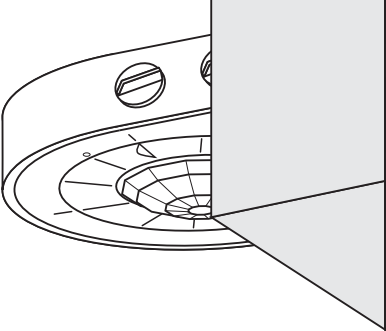

Figure 1B
**NOTE:** The HB011 is supplied with two lens trim rings. The 360 degree High Bay lens (white color trim ring) and the 360 degree Low Bay lens (blue color trim ring) in the carton. An aisle mask is included for aisle coverage if desired. Change the lens for use in aisle or Low Bay applications. See below for changing lens trim ring. The HB011 Sensor mounts in a 1/2" knock out hole on the end of a luminaire or an electrical box. The Sensor’s field-of-view may be partially obstructed by the luminaire housing (refer to **Figure 1A**). At higher mounting heights, the outer beams are not used. As long as the bottom of the sensor is mounted within 1" from the bottom of the luminaire, the field-of-view will not be affected (refer to **Figure 1B**).